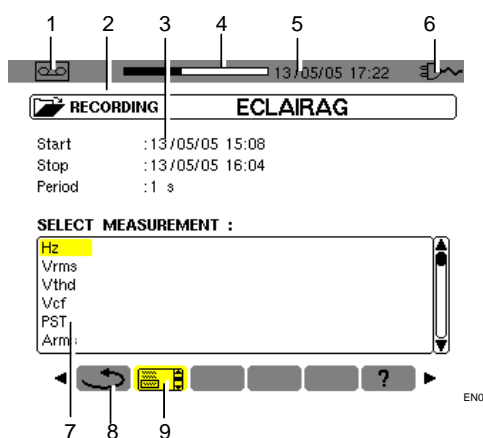

Figure 51: Example of measurement recording selection screen.
6.	Return to previous screen (Figure 51).